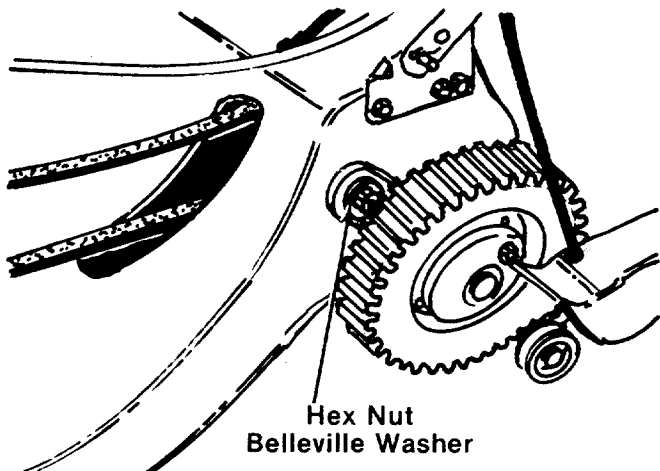

FIGURE 27.
5. Remove hex nut and belleville washer from height adjustment lever on left side of mower as shown in figure 27.